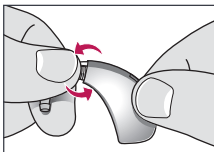

Figure 1
1. Unscrew the tubing from the tip of the hearing instrument (Fig. 1).